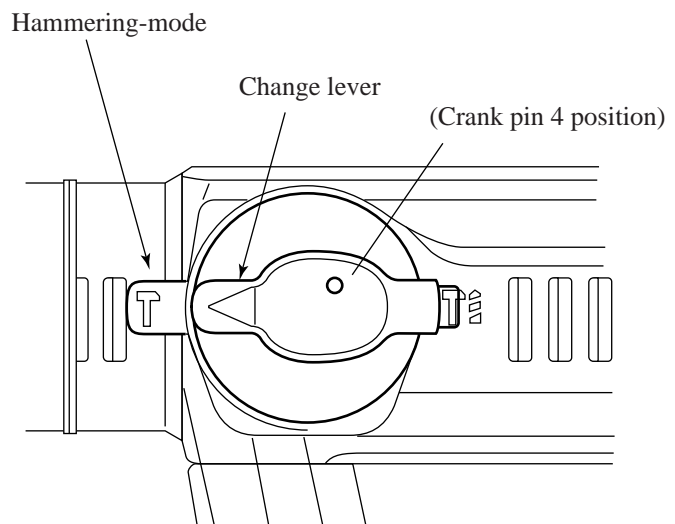

Figure 3
- b. Insert Crank pin 4 of the change lever into the hole of Change link. (See the figure 3)